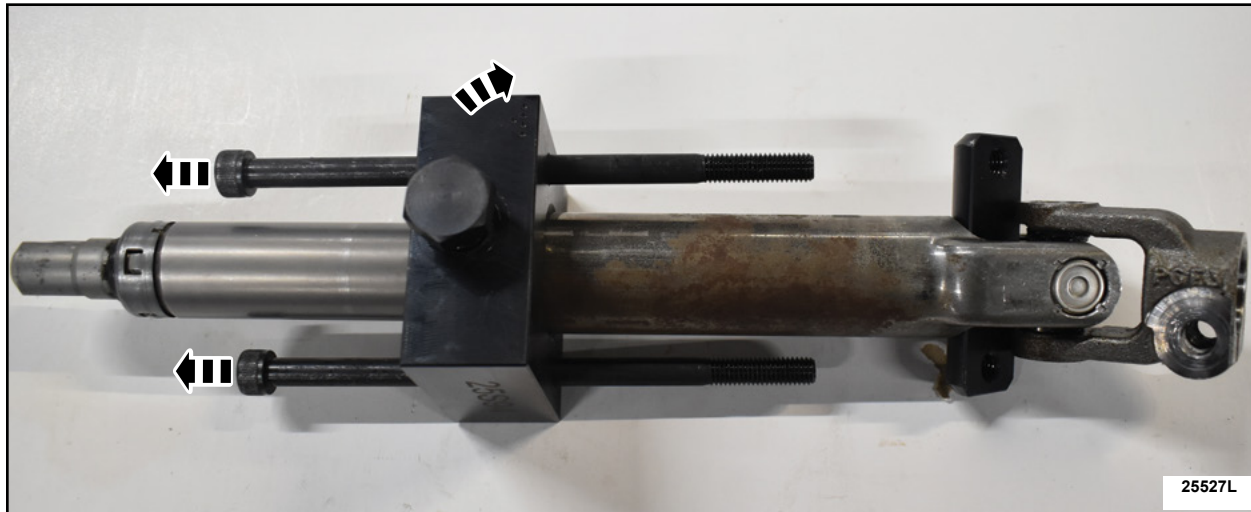

FIGURE 10
9. Remove the Allen bolts and rotate the staking block 180 degrees. See Figure 10.